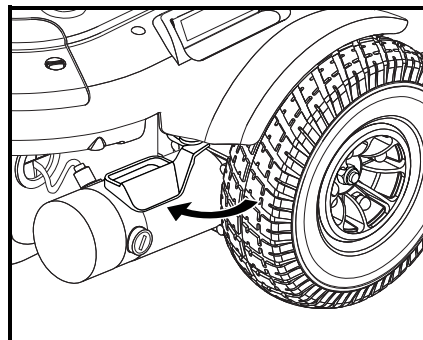

Figure 8. Drive Mode (Drive Engaged)
2. Push the two levers inward to engage the drive motors (drive mode). **See figure 8.**